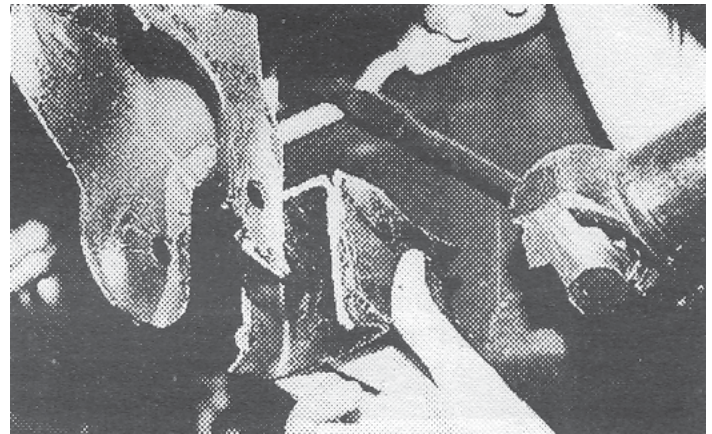

Fig. 14
13. Scribe areas to be cut on OE bracket prior to actual cutting. Cut DVR lower rear control arm receiver, front and rear surfaces, vertically $\frac{3}{8}$ " toward inside of vehicle from control arm hole. Join front and rear cuts with horizontal cut, **Fig. 14**. You should now have removed rear OE differential mount. Dress to accommodate bracket "CL".